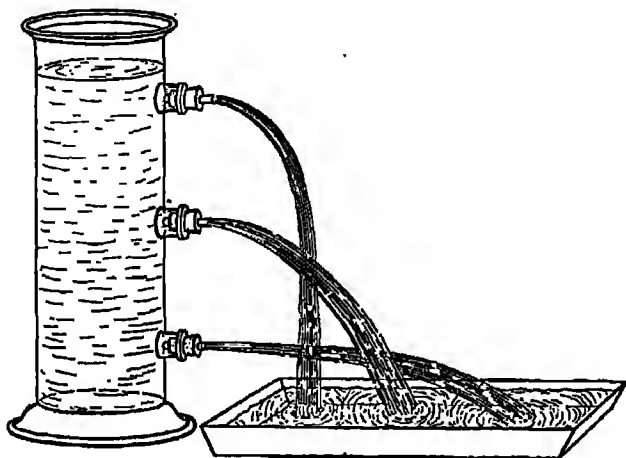

FIG. 198.
**Expt. 250.** Fill with water a tall cylindrical vessel having outlets at different heights in the sides. The water issues from the bottom outlet with a greater force than from the others (Fig. 198).